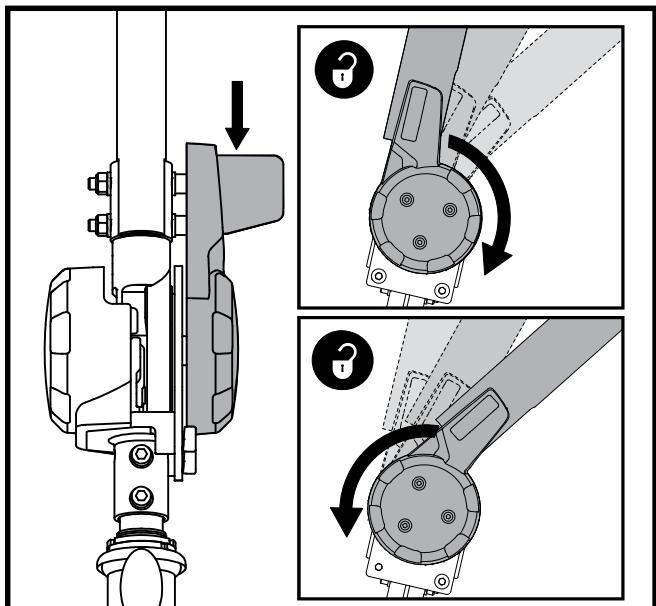

Figure 11. Tiller Adjustment Knob
1. With the seat and battery pack removed (see Disassembly Procedures on previous page), lower the tiller and tighten the tiller adjustment knob. See figure 11.
3. Raise the tiller and fully tighten the tiller adjustment knob. See figure 11.